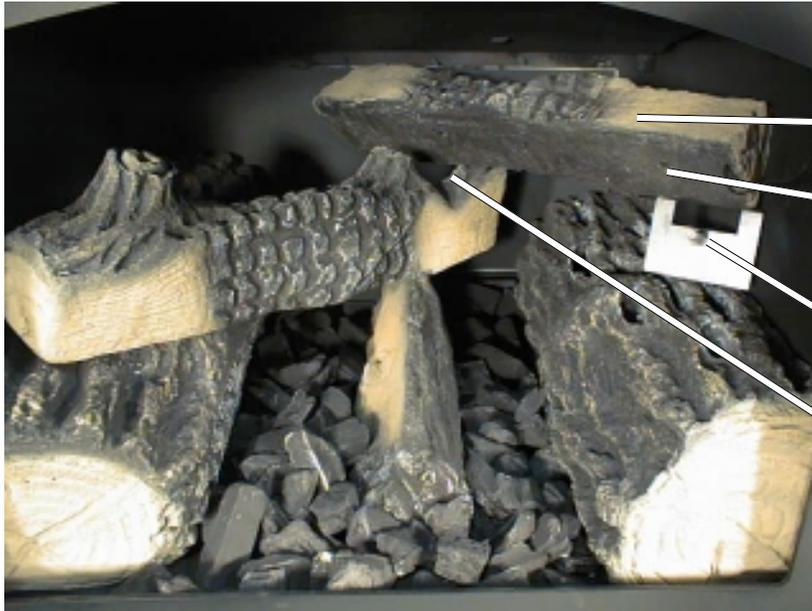

FIGURE 4
5. Remove the right top log bracket using a Phillips screwdriver (Screws are accessed through rectangular hole in bracket.) See Fig. 4, Pg. 37 (Labeled "Peg in right log bracket")
6. Place end of right top log, #24, on top of left top log notch, and front of log on the peg of right log bracket. See FIGURE 4